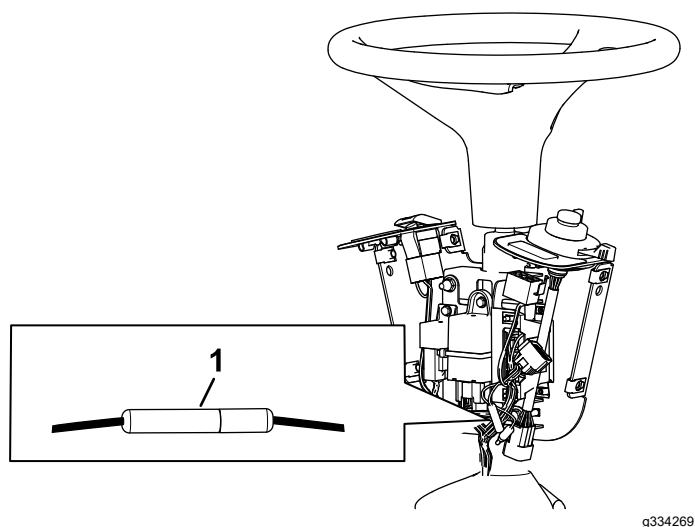

Figure 10
11. Connect the bullet connectors as shown in Figure 10.